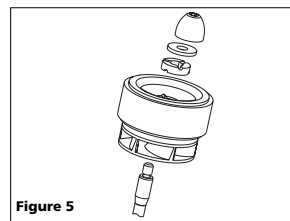
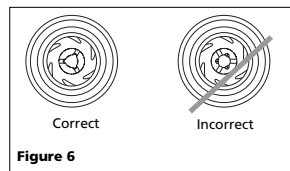

Figure 5
Figure 6
10. Reassemble parts in reverse order, as shown in Figure 5. For proper orientation of the thrust washer, refer to Figure 6. Do not overtighten the conical nut. Be careful not to damage the float when installing the filter cap.